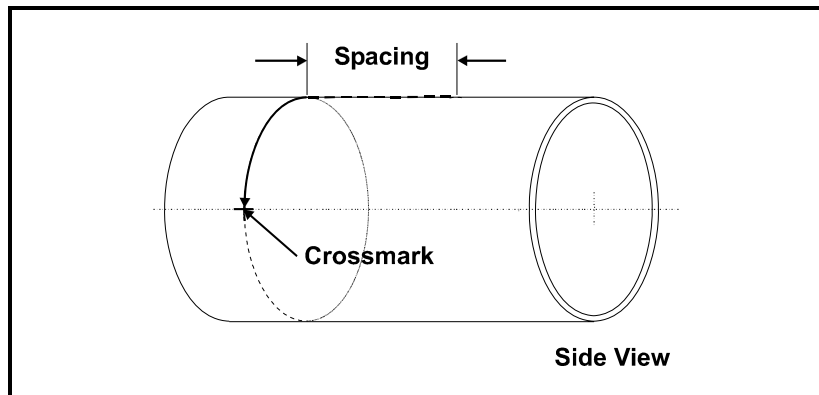

Figure 1-18: Measuring a Quarter of the Pipe's Circumference
6. From one of the marks, measure around the circumference of the pipe a distance equal to one quarter the pipe's circumference, as shown in Figure 1-18 below. Make a crossmark with a marker or scribe.